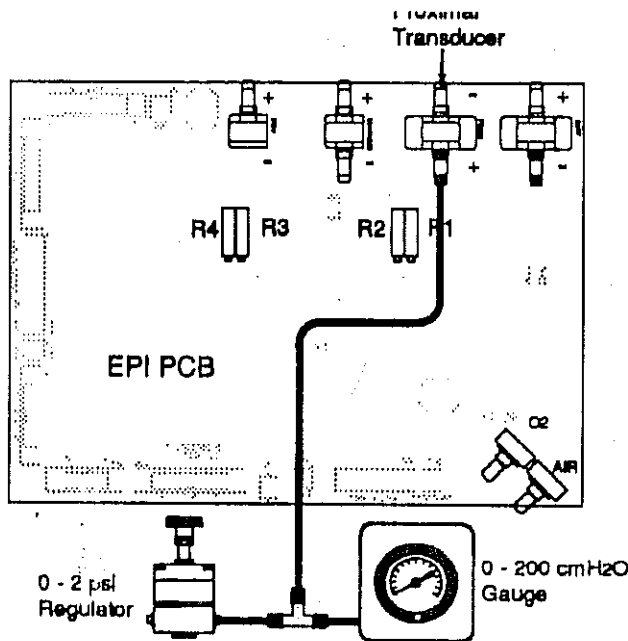

Figure 5-2
11. Connect the Proximal Transducer as shown in Figure 5-2 except to the opposite port (negative) and apply 40 ±.5 cmH₂O pressure.